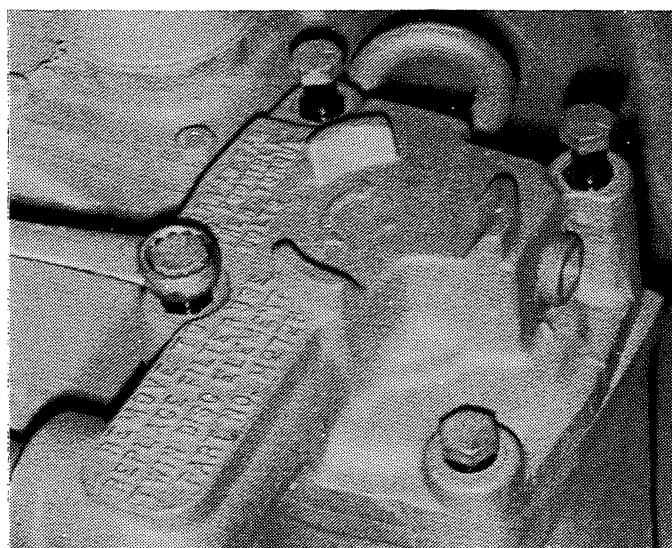

Figure 6-8. Removing or Installing Filter Head.
6. Remove the four hex-head screws from the filter head and remove the filter head and element. See Figure 6-8.